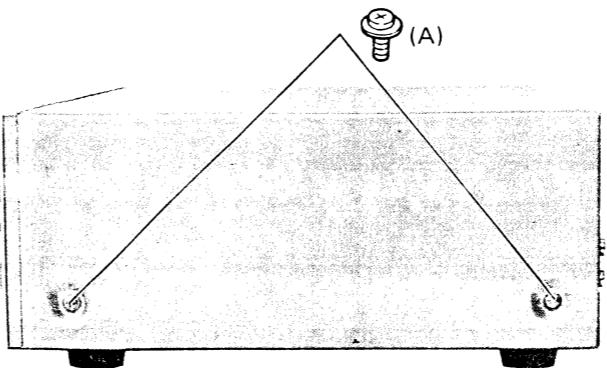

Figure 13
- 1 Remove four screws (A) and (B) from each side of Top Cover (See Figure 13 and 14)